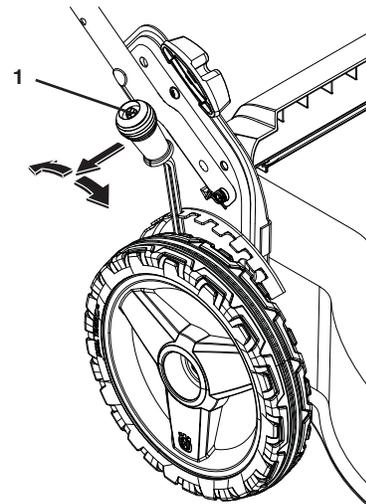

Figure 12
1. Pull adjuster lever toward wheel. To raise mower, move lever forward to desired position. To lower mower, move the lever toward the rear (Figure 12).